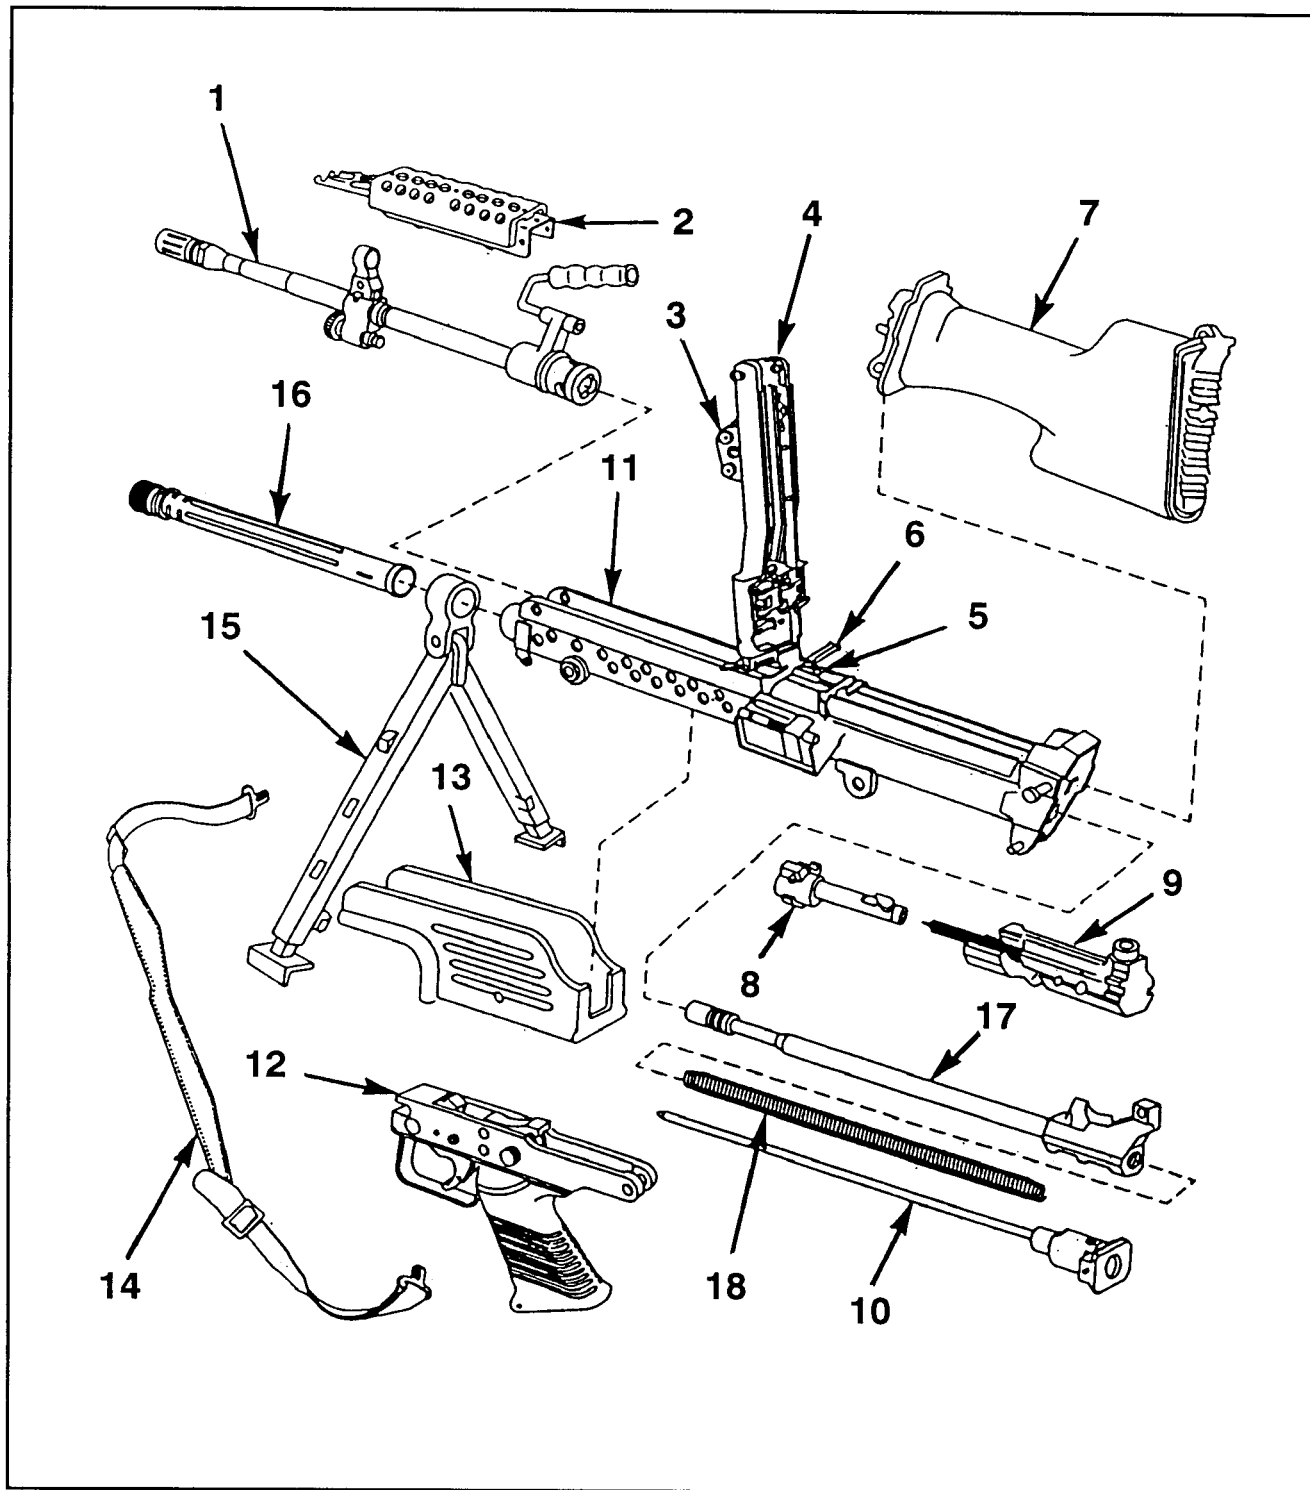
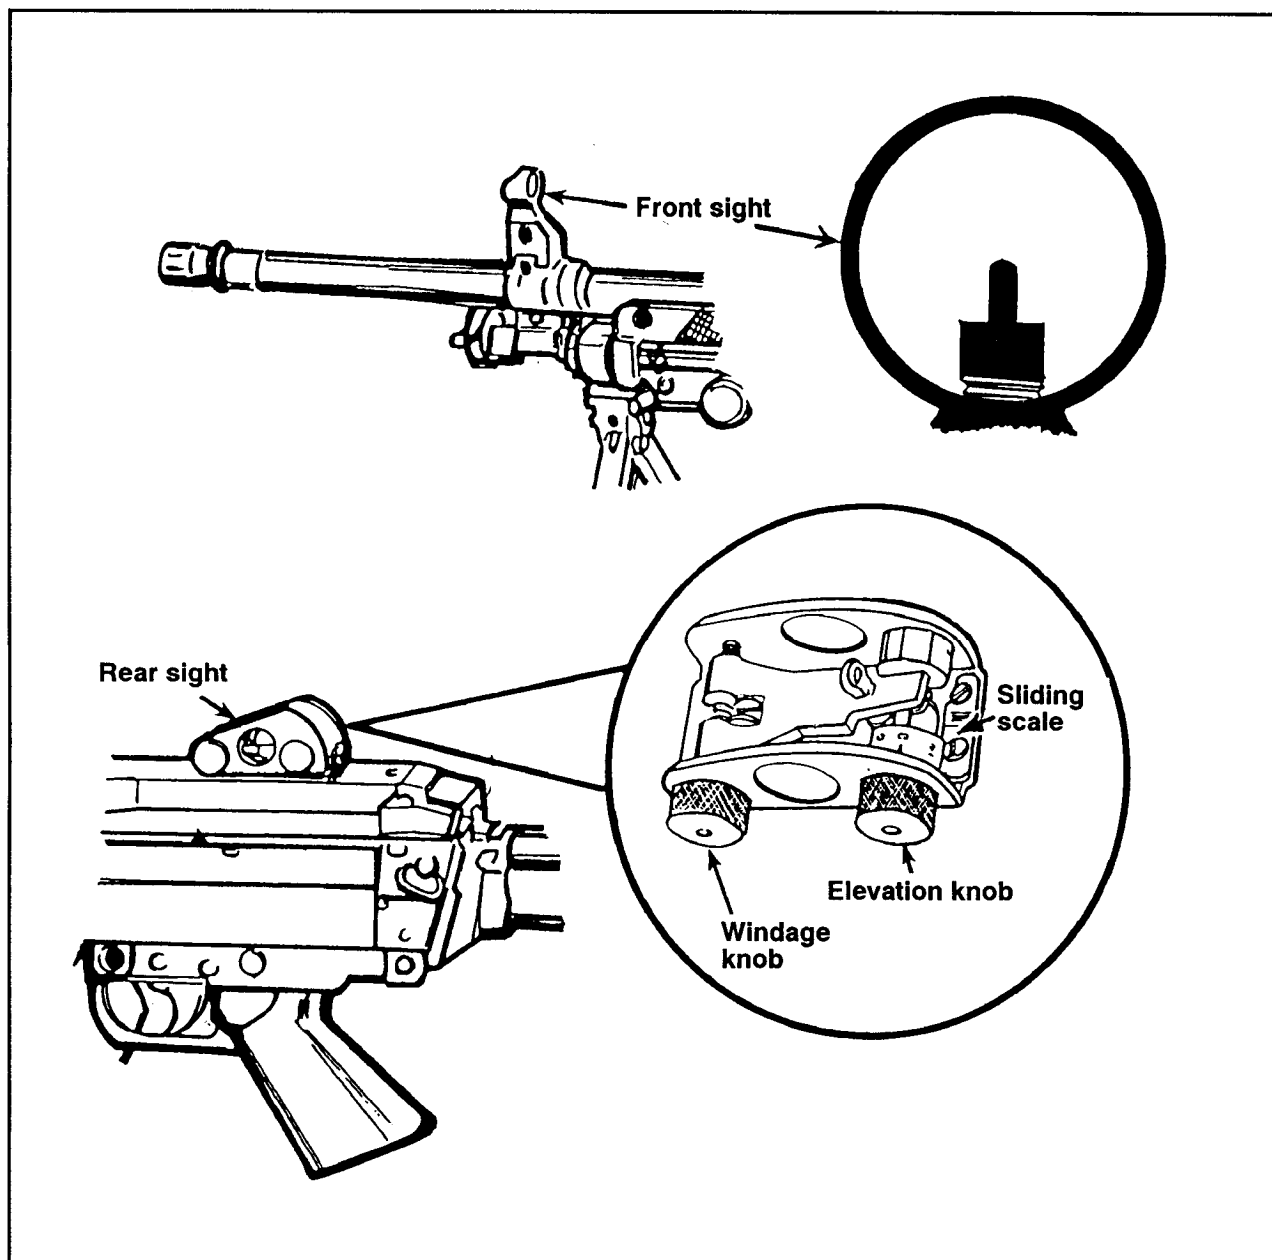

Figure 1-2. M249 AR components.
Figure 1-3. Sights.
The major components of the M249 AR and their purposes are shown in Table 1-1, page 1-2; and Figure 1-2, page 1-3. The sights and safety button are discussed in paragraphs a and b and shown in Figures 1-3 and 1-4, pages 1-5 and 1-6, respectively. See Table 1-2, page 1-4, for general data.
a. **Sights.** The M249 AR has a hooded and semi-tied front sight (Figure 1-3). The rear sight assembly mounts on the top of the cover and feed mechanism assembly. The elevation knob drum has range settings from 300 meters to 1,000 meters. Range changes are made on the M249 AR sight by rotating the elevation knob to the desired range setting. Rotation of the rear sight aperture (peep sight) is used for fine changes in elevation or range adjustments, such as during zeroing. Each click of the